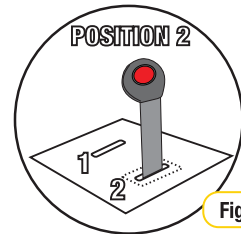

Figure 3
- Step 3:** Buckle should now be in POSITION 2 (refer Figure 3).
- Step 5:** Lay the two harness straps (with tongues) to the sides of the Infant Carrier (refer Figure 3).